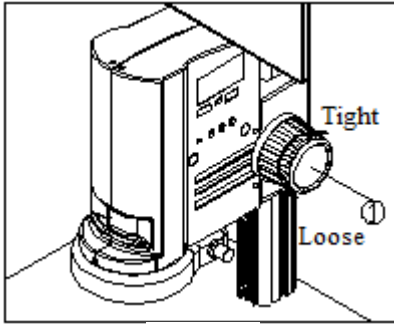

Fig. 5
- 1) To adjust the focusing tension, grip the left knob and rotate the right knob①. It will be tighten when rotated in clockwise, while loosen in counter-clockwise. (See Fig.5)